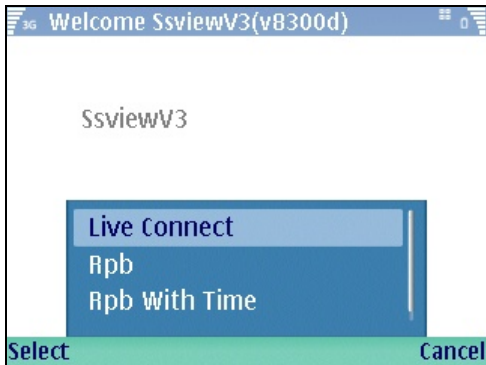

Figure 8-70
3. Click **Options**, and then select **Rpb** (see Figure 8-70). If you want to search the recordings within a specific period of time for playback, select **Rpb With Time**.